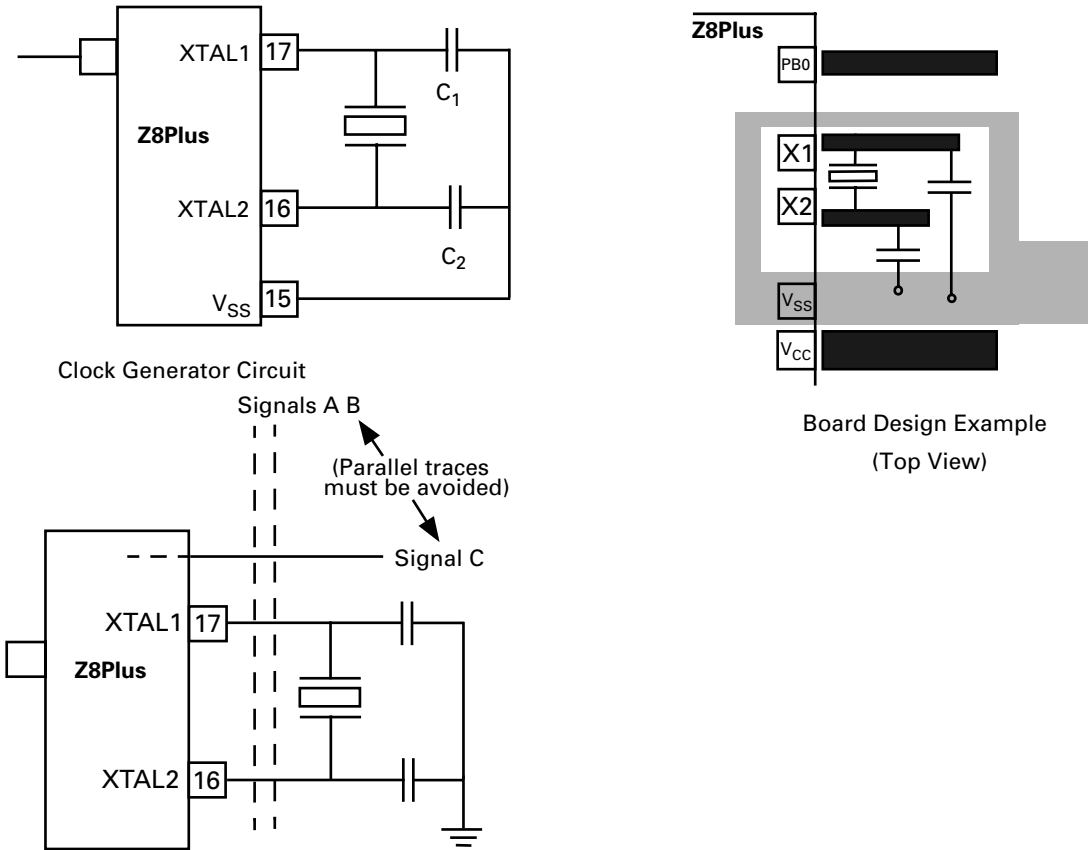

Figure 15. Circuit Board Design Rules
The traces from the oscillator pins of the integrated circuit (IC) and the ground side of the lead caps should be guarded from all other traces (clock,  $V_{CC}$ , address/data lines, and system ground) to reduce cross talk and noise injection. Guarding is usually accomplished by keeping other traces and system ground trace planes away from the oscillator circuit, and by placing a Z8Plus device  $V_{SS}$  ground ring around the traces/components. The ground side of the oscillator lead caps should be connected to a single trace to the Z8Plus device  $V_{SS}$  (GND) pin. It should not be shared with any other system-ground trace or components except at the Z8Plus device  $V_{SS}$  pin. The objective is to prevent differential system ground noise injection into the oscillator (Figure 15).